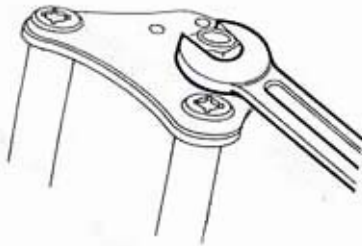

Fig. 3
- Remove the top steering lock nut and washer (32mm wrench, fig. 3).